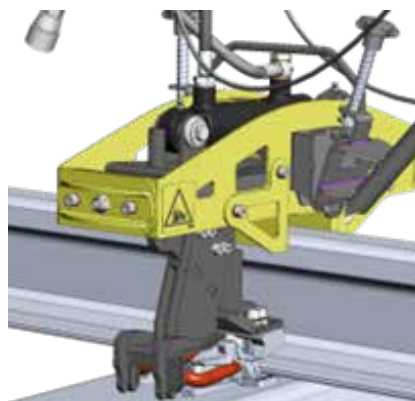

Fig 51.
2. Press the button (1) once to power up the drive unit.
3. Press the activation button (3) once to activate the tool.
4. Lift the machine slightly and move the tool along the rail so that the arms are positioned correctly next to the clips ("Fig 51.").